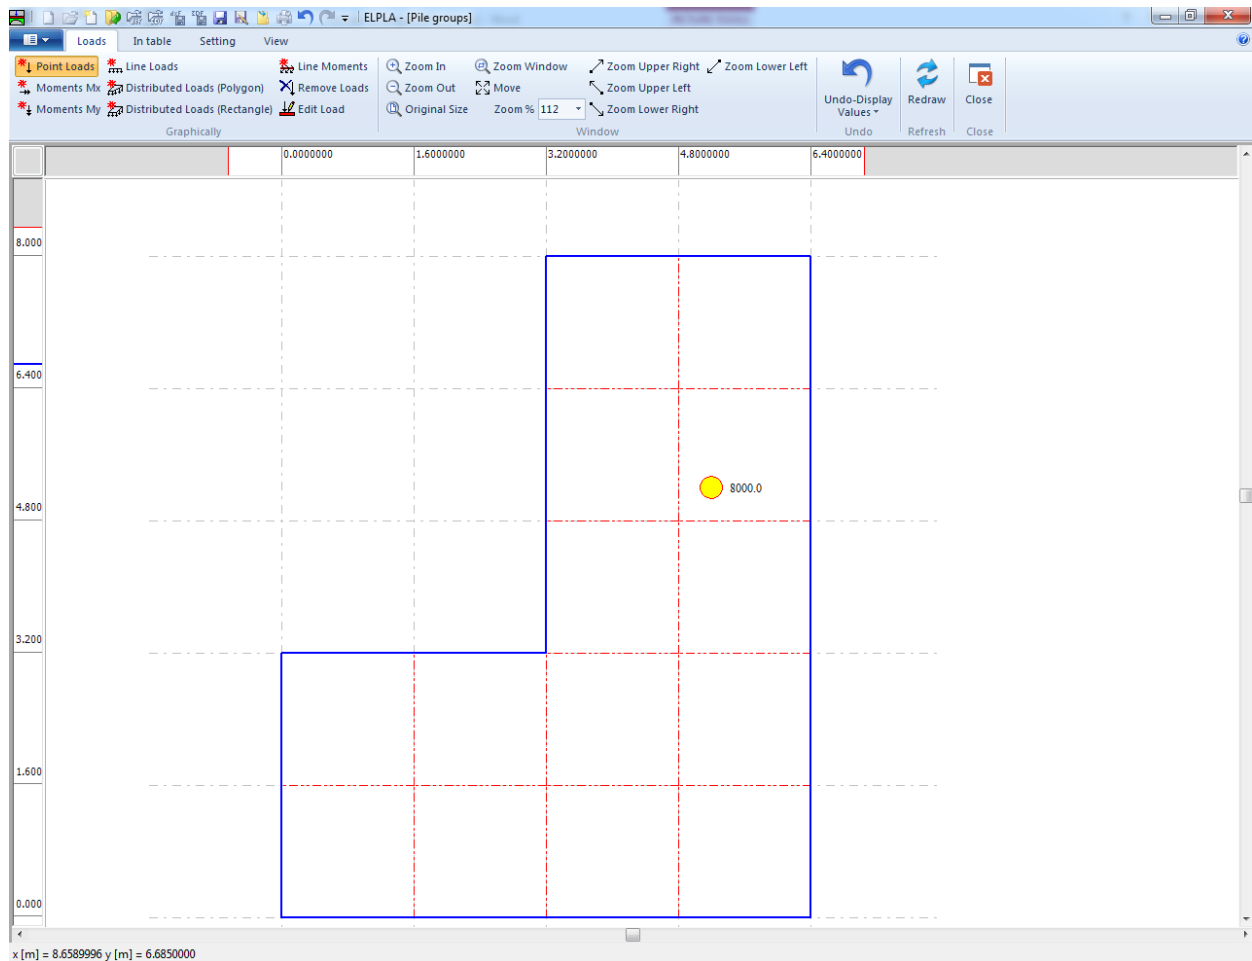

Figure 11.32 Loads
- Choose "Save" command from "File" menu in Figure 11.32 to save the load data
- Choose "Close" command from "File" menu in Figure 11.32 to close the "Loads" Window and return to *ELPLA* main window